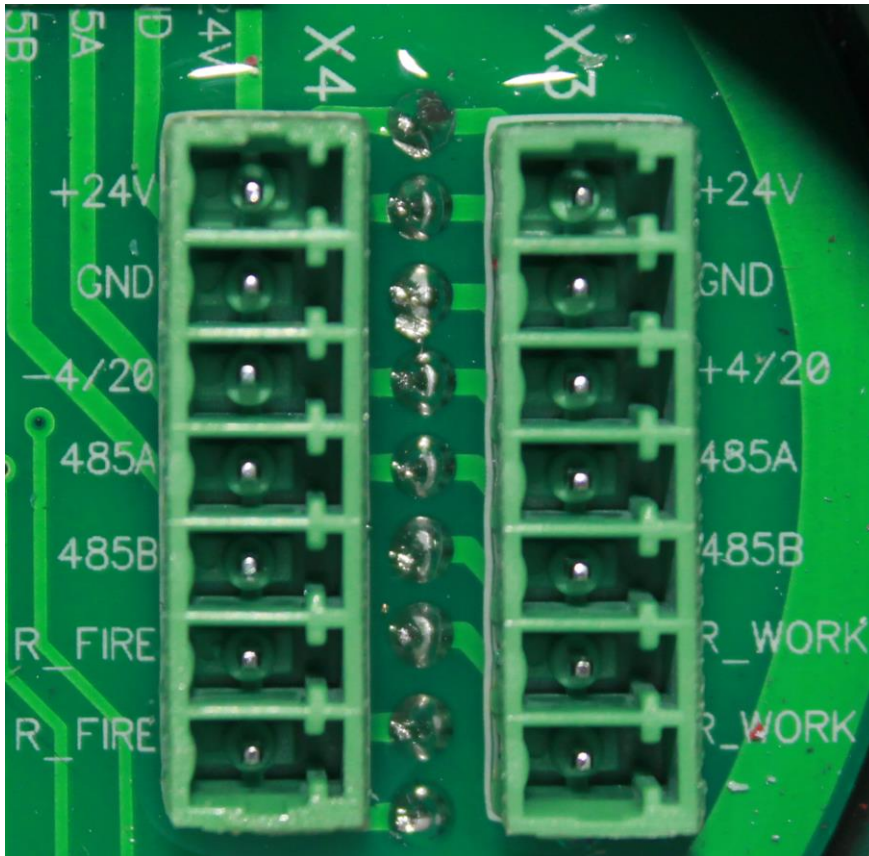

Figure 5-2: Arrangement and Functions of Mounting Connection Terminals
4. Run the power, control, and ground wires from the conduit into the conduit bushing and connect to the wiring terminals in the base. Follow Figure 5-2, Arrangement and Functions of Mounting Connection Terminals, for details.